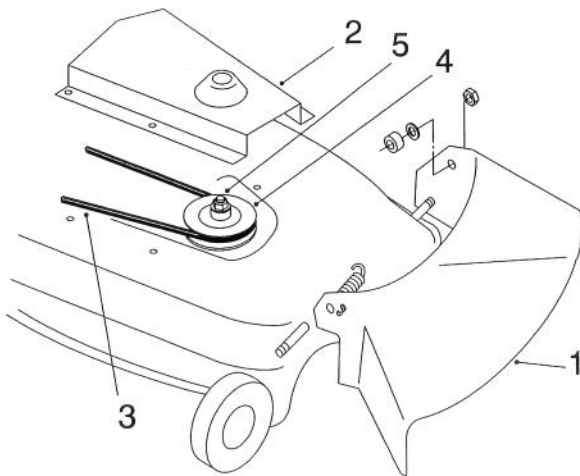

Figure 9
2. Remove the grass deflector and belt cover from the mower (Fig. 9). Save both the deflector and the belt cover for use if you remove the bagger later and want to discharge grass to the side.